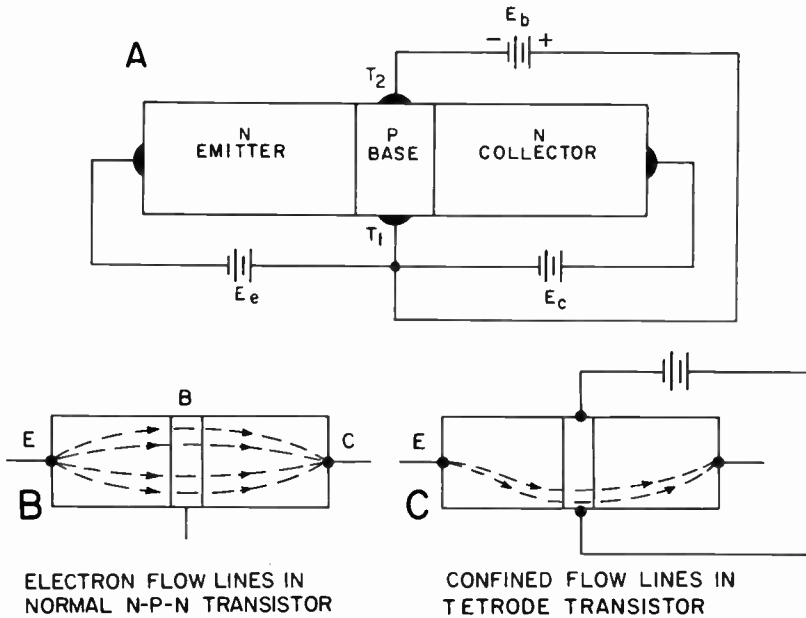

FIG. 10-9. A TETRODE TRANSISTOR.
**TRANSISTOR PROGRESS.** A further extension of the frequency range of transistors has been realized by adding a fourth terminal to an N-P-N junction transistor, as shown in Fig. 10-9. Because of the four connections, this unit is called a JUNCTION TETRODE TRANSISTOR. The assembly resembles a conventional N-P-N junction transistor; the essential difference is the presence of bias battery  $E_b$  connected to the second of the base terminals, T2.